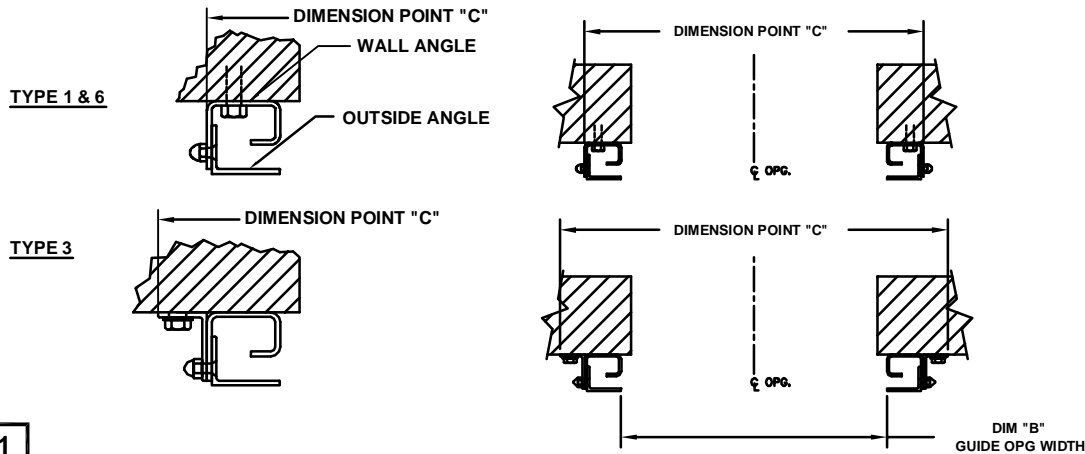

FIG. 1
- 2) For typical installation for Type 1, 6 and 3 (See FIG. 1 & 2) guide assemblies, Dimension point "C" is centered around jamb opening - (if side room permits) - if there are questions check job construction drawings (if available).
- 3) Check the Guide opening measurement. Locate a mark on the floor at the tip of each guide and measure. Guide measurement must equal Dim "B". (See FIG 1 & 2) **THIS IS CRITICAL** If guide opening does not equal Dim "B", **STOP** and redo steps 1 and 2.